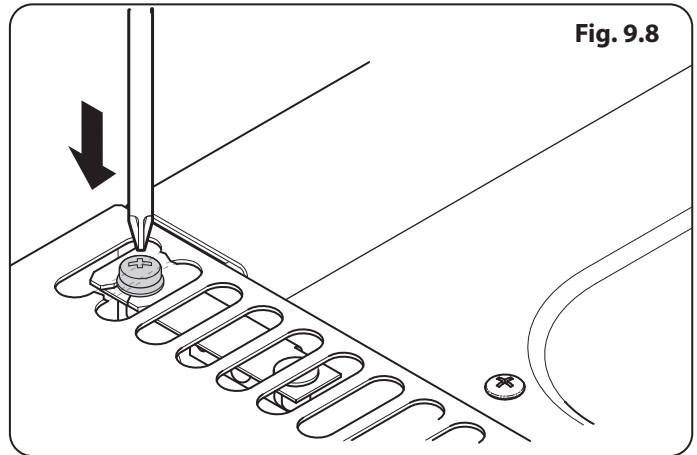

Fig. 9.8
1. Loosen the screw in the flue vent (**Fig. 9.8**).
4. Check everything is firmly connected and tighten the screw in the flue vent to secure the side panel in position (**Fig. 9.8**).